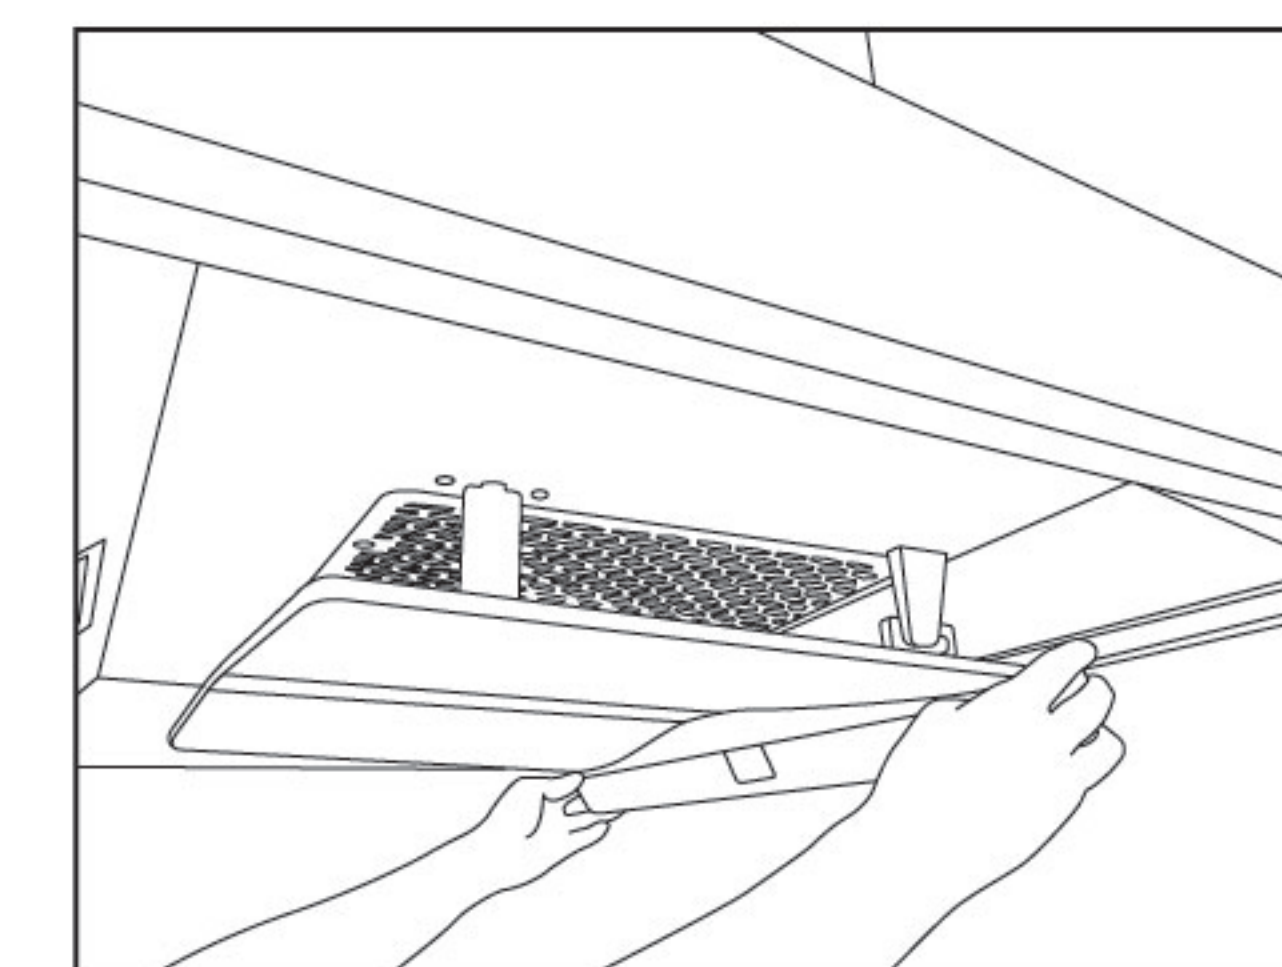

Figure 1
1. Hold both ends of the oil cup with both hands, keep the oil cup horizontal, move out slowly toward the front direction of the range hood, take down the oil cup and then drain off the accumulated oil (Figure 1);